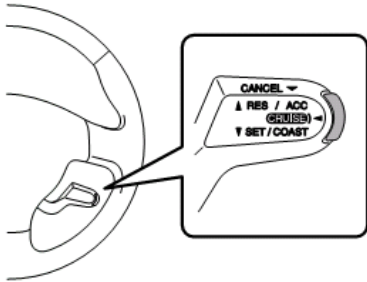
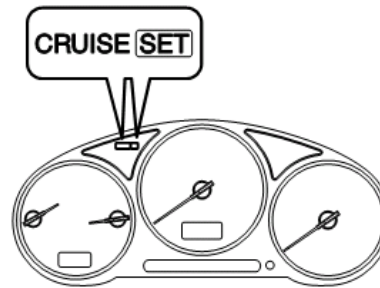

Figure 2 - "CRUISE" and "SET/COAST" buttons
Figure 3 - "CRUISE" and "SET" indicator lights
The 30-6820 / 30-6821 EMS, as delivered, requires a specific calibration procedure to be performed prior to use. Before beginning this procedure, please be familiar with the location and function of the **CRUISE** and **SET/COAST** buttons on the Cruise Control Steering Column Stalk as depicted in *Figure 2*. Also be aware of the (green) **CRUISE** and **SET** indicator lights on the dashboard, *Figure 3*. **This procedure should be repeated any time any part of the ETC system has been serviced, removed, or replaced.**
- d. Keep holding both the **CRUISE** and **SET/COAST** buttons for approximately ten (10) seconds until the **CRUISE** and **SET** indicator lights (*Figure 3*) begin flashing in unison at a medium rate.